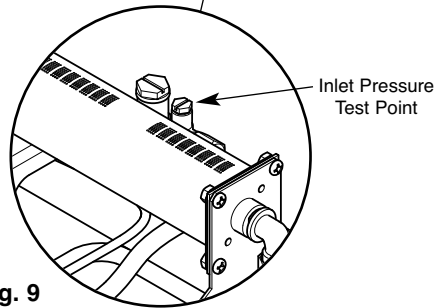

Fig. 9
3. Connect manometer to pressure test point on the brass pressure test elbow (Fig. 9) and ignite the burner to check working pressure and gas rate see (page 10). Note: the gas rate is factory set and is not adjustable without specialised Legend equipment.